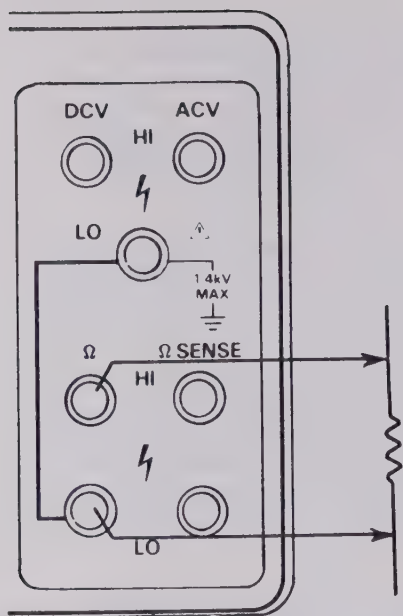

Figure 4-4. Resistance Measurements
- 4. Connect input between Ω and LO (see Figure 4-4).